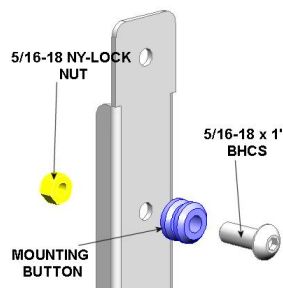

Figure 2
1. Using a 5/16-18 x 1" button head cap screw inserted from the front of the mounting button, secure mounting button, with chamfered hole of mounting button (larger surface) facing bracket, to upright brackets (four places) (see Figure 2). Make sure the bends on interface bracket face away from the button.